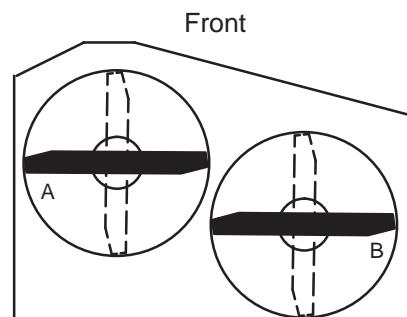

Figure 25
1. Rotate the blades until the ends face forward and backward (Fig. 25). Measure from a level surface to the cutting edge of the blades (Fig. 26). Note this dimension.